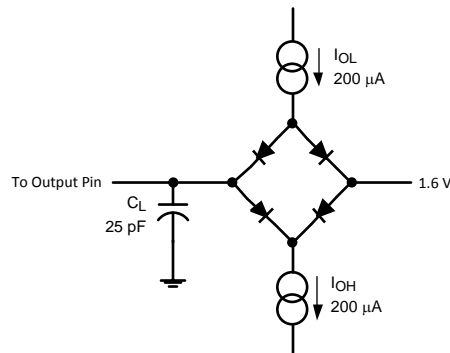

Figure 3. Timing Test Circuit
- (1) Measured with the timing test circuit shown in Figure 3 and defined as the time taken by the output signal to cross $1.0V$.
- (2) Measured with the timing test circuit shown in Figure 3 and defined as the time taken by the output signal to cross $1.0V$ or $2.0V$.
- (3) t_{DIS} is derived from the time taken by the outputs to change by $0.5V$ with the timing test circuit shown in Figure 3. The measured number is then adjusted to remove the effects of charging or discharging the output capacitance. This means that t_{DIS} is the true bus relinquish time, independent of the bus loading.